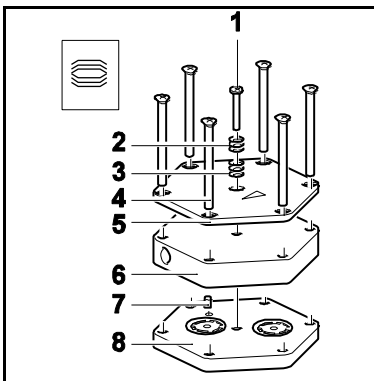

Fig. 24: Refitting pump head
1. On the pneumatic head connection (3), loosen the union nuts (2) by hand. Then slightly loosen the angle-fitting (1) in the pump head (4) by turning it anticlockwise, so that the connecting tube can be pulled out.
2. On both pump heads mark the position of top plate (fig. 24/5), head plate (fig. 24/6), intermediate plate (fig. 24/8) and adapter relatively to each other by a drawing line with a felt-tip pen. This helps to avoid incorrect assembly later.
- 3. Loosen the outer screws (5) on the pump heads.
6. Insert screw(s) (1) with disk springs (2, 3) in the center of the top plate (5). In doing so, make sure that the disk springs are arranged properly (see fig. 24).
7. Screw in the screw/screws (1) in the centre of the pump top plate (5) until it is flush with the top plate (they are flush with the top plate); then screw one final half turn to tighten.